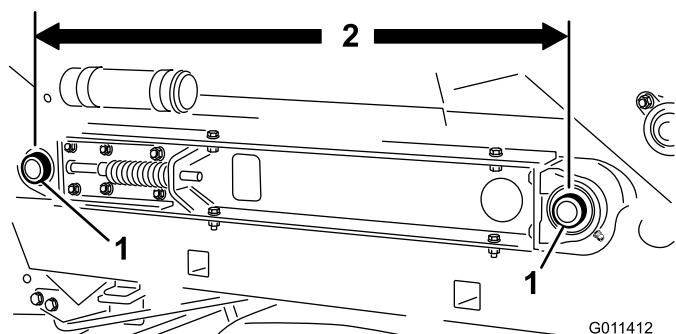

Figure 27
3. Check to insure that the center distance between conveyor belt roller shafts (Figure 27), on each side of machine, are equal distance (approximately 35-1/4 inches).